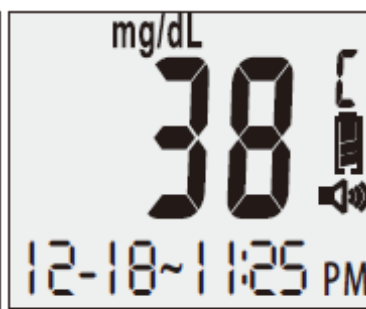

Figure 2-6
4. Wait six (6) seconds and the meter will display the result. You will then hear: “**The glucose level is [number/unit]**” (see Figure 2-6).